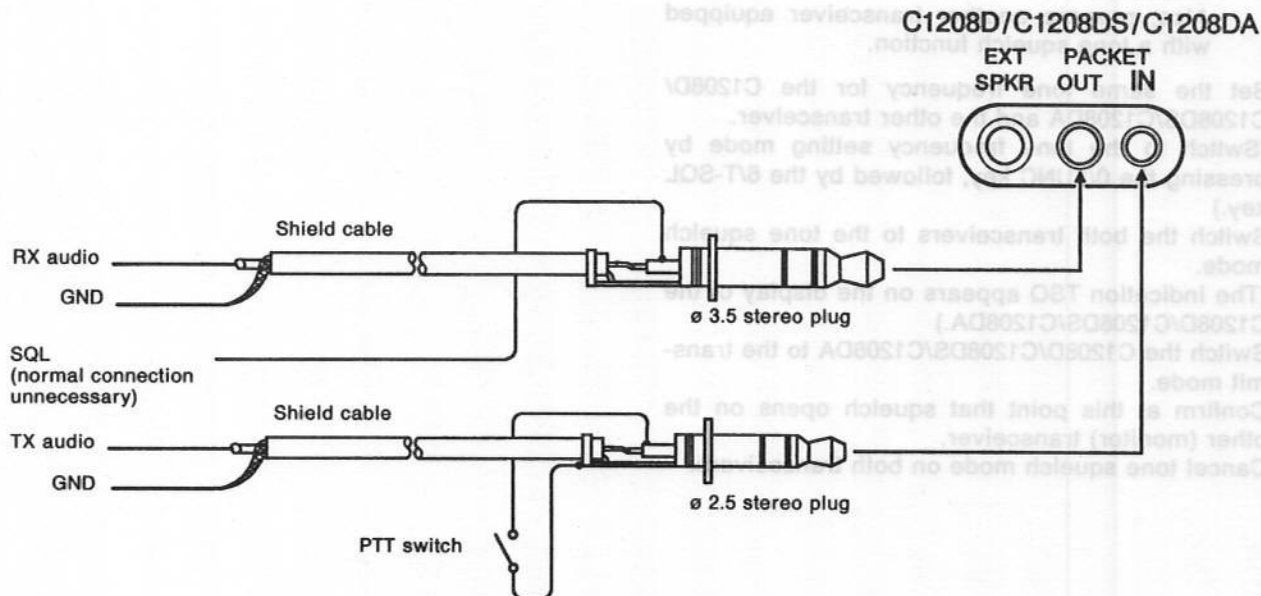

Figure 5-7 Packet Plug
- (b) Connect an oscilloscope to the transceiver's external speaker socket via a packet plug (Figure 5-7). Confirm that the packet data output socket output level (RX audio) at this point is between 0.1 V and 0.3 V.